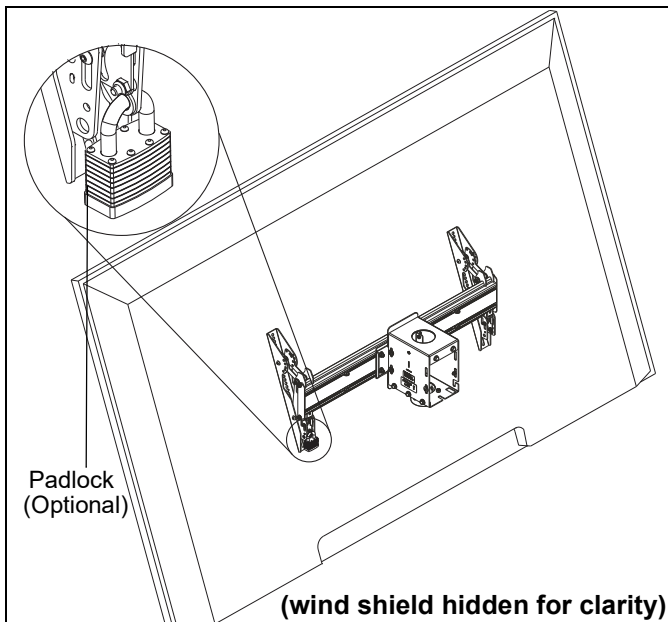

Figure 18
**IMPORTANT !** : In order to prevent interface latch from getting loose due to strong winds, the latch **MUST** be locked either using a padlock or locking bolt (N) and 5/16-18 hex nuts (Q). This is **NOT** optional!
1. Add padlock (not included) to each interface bracket to lock latch and to provide security for displays. (See Figure 18)